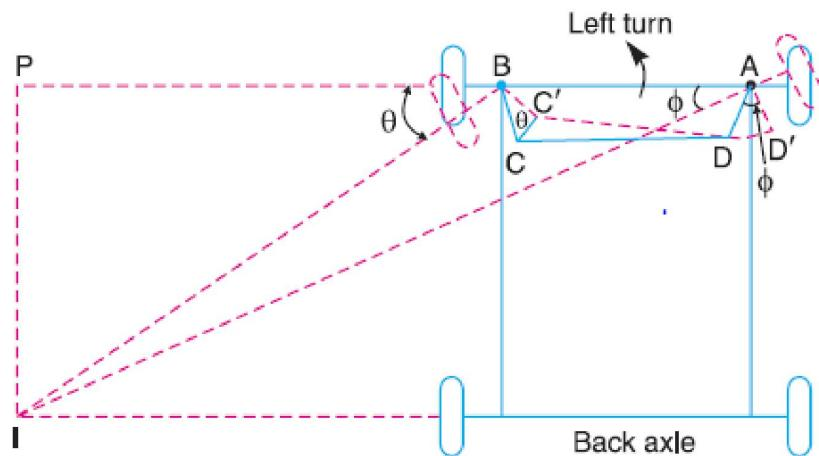

Fig. 4.12 Ackerman steering mechanism
- In Ackerman steering gear, the mechanism ABCD is a four bar crank chain, as shown in Fig. 4.12. The shorter links BC and AD are of equal length and are connected by hinge joints with front wheel axles. The longer links AB and CD are of unequal length.
- 1 When the vehicle moves along a straight path, the longer links AB and CD are parallel and the shorter links BC and AD are equally inclined to the longitudinal axis of the vehicle, as shown by firm lines in Fig. 4.12.
- 2 When the vehicle is steering to the left, the position of the gear is shown by dotted lines in Fig. 4.12. In this position, the lines of the front wheel axle intersect on the back wheel axle at I, for correct steering.